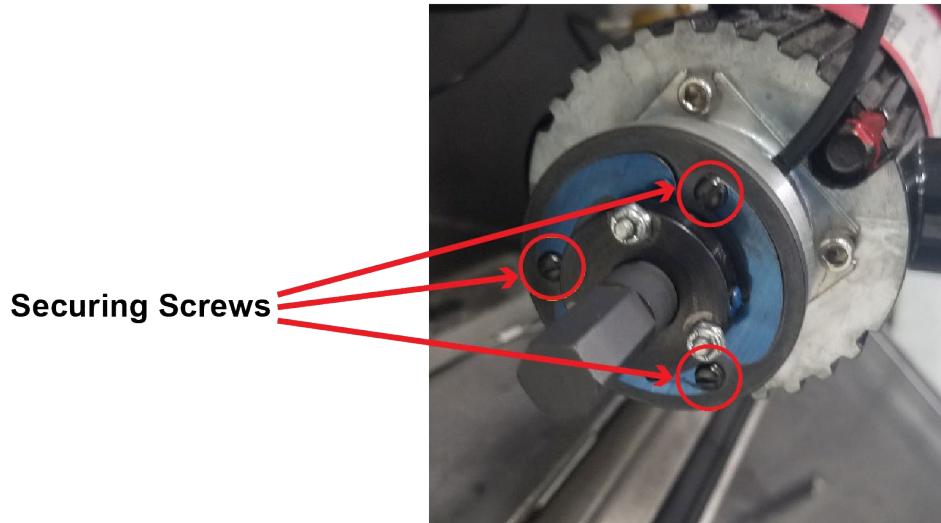

Figure 1 Screw Presence
- Inspect for the presence of the three screws securing the brake armature leaf springs to the brake armature housing as shown in Figure 1. If the screws are present and visually look properly fastened, no further action is required.